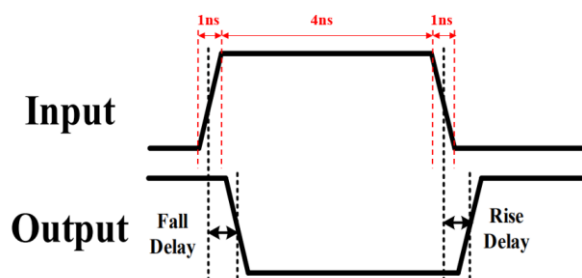

Fig. 1
4. The rise time, fall time, and period of applied input pulse should be 1ns, 1ns, and 10ns respectively (see Fig. 1).